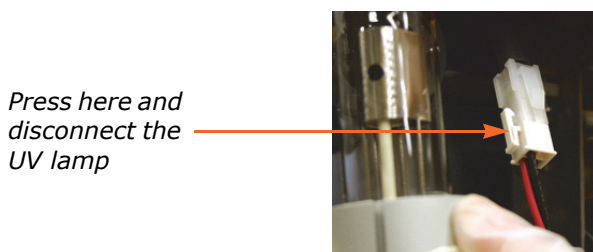

Figure 5-15. Disconnect the UV Lamp
7. Pull out the UV lamp and disconnect it from the power cable; see Figure 5-15.